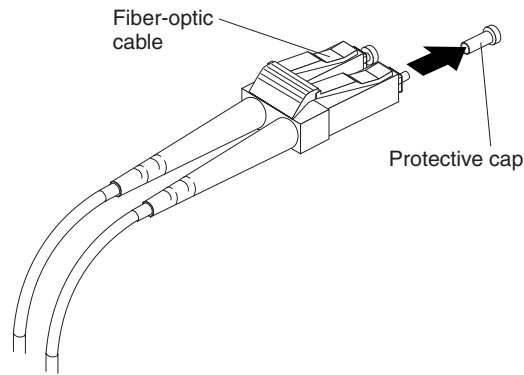

Figure 28. Removing fiber-optic cable protective caps
3. Remove the two protective caps from one end of the LC-LC cable, as shown in Figure 28 on page 37. Save the protective caps for future use.